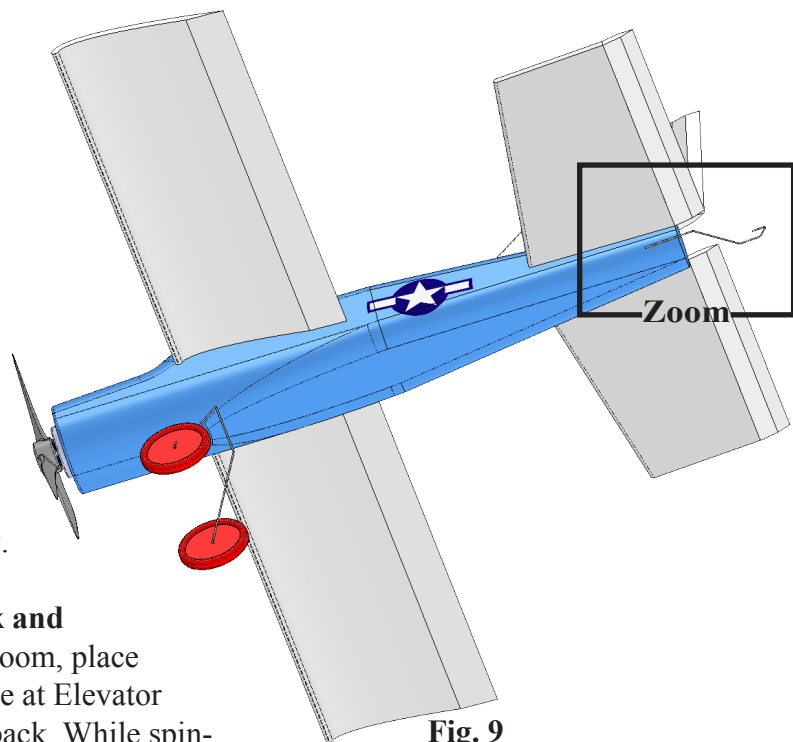

Fig. 9
- Step 2. Rotate view to view **bottom of Fuselage**, **Fig. 9**. Hold down middle mouse button (wheel) and drag.
- Step 4. **Browse** and place **TAIL HOOK** as positioned in **Fig. 9**.
- Step 5. Zoom in around the **Tail Hook and rear of Fuselage**, **Fig. 9**. To zoom, place the cursor over rear of Fuselage at Elevator and spin the wheel on mouse back. While spinning the wheel keep cursor on rear of Fuselage.